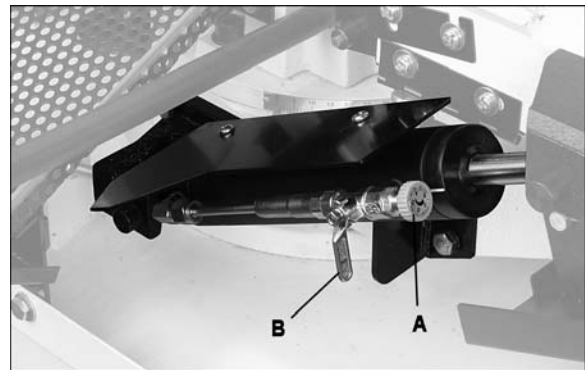

Figure 18
To increase feed rate, turn dial (A, Figure 18) counterclockwise. To decrease, turn clockwise.
To close hydraulic flow, turn lever (B) down, perpendicular to cylinder, as shown in Figure 18. To open hydraulic flow, raise lever (B) parallel to cylinder.